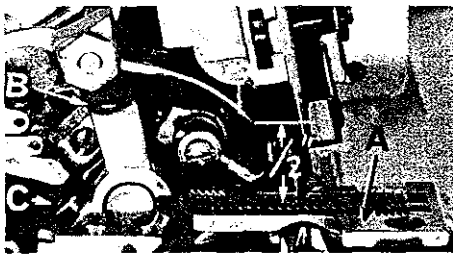

Fig. 3
With throat plate assembled in position, needle should center in the front end of needle slot. When needle is at high position, needle point should be set 1/2 inch above throat plate (A, Fig. 3) for styles 39500 FS, FT, FU, GT, and JP; 15/32 inch for Styles 39500 GD and GL. To align needle or set the height above the throat plate, move needle driving arm (B, Fig. 3) by loosening clamp screw (C). After needle has been set properly, tighten clamp screw and remove throat plate.